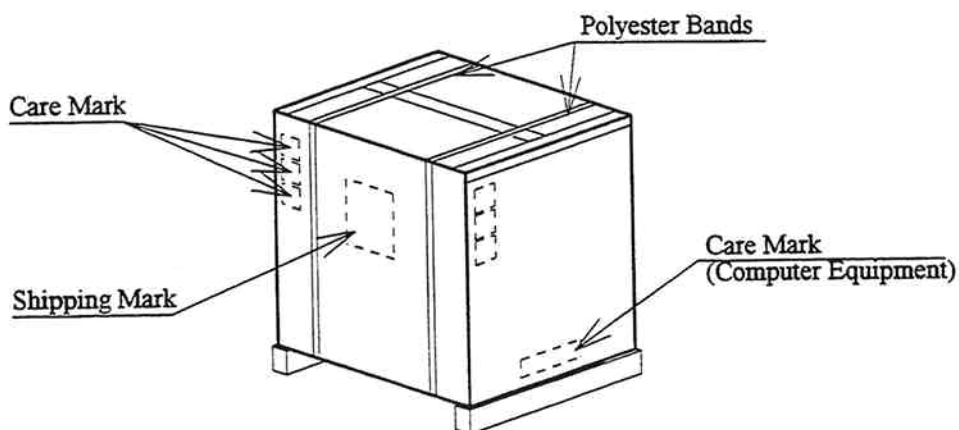

Fig. 3.3.2.1.3-1 Container Overview
1. The container overview is shown in Fig. 3.3.2.1.4-1.